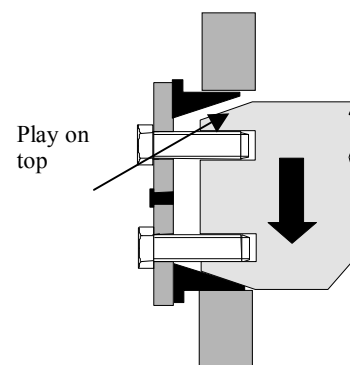

Fig. 5. A heavy load on the bolt prevents complete tightening. Unload the bolt before tightening.
- ❖ Tighten the bolt screws to the specified torque in order to expand the taper sleeves. First "unload" the equipment. The weight of the equipment may prevent complete tightening (see Fig. 5).